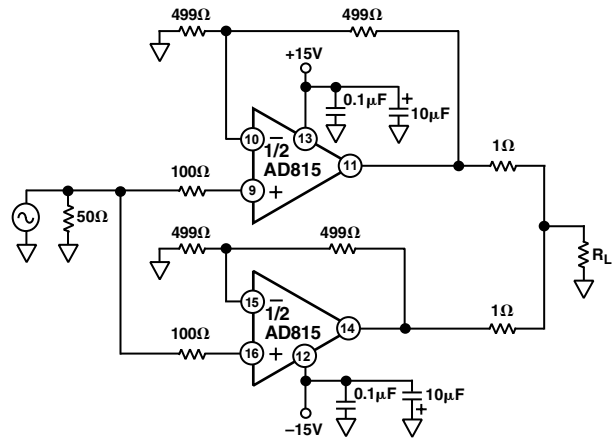

Figure 50. Parallel Operation for High Current Output
a small resistor should be placed in series with each output. See Figure 50. This circuit can deliver 800 mA into loads of up to 12.5 Ω .
- Changes to Figure 50 and Figure 5112